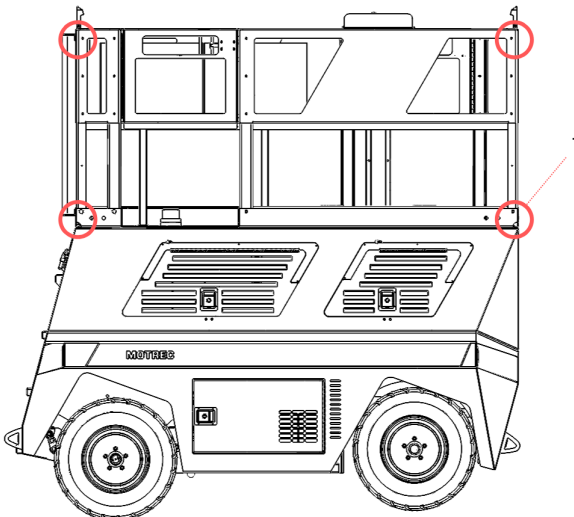

Figure 40. Guardrails.
- guardrails (1). (see Figure 40).